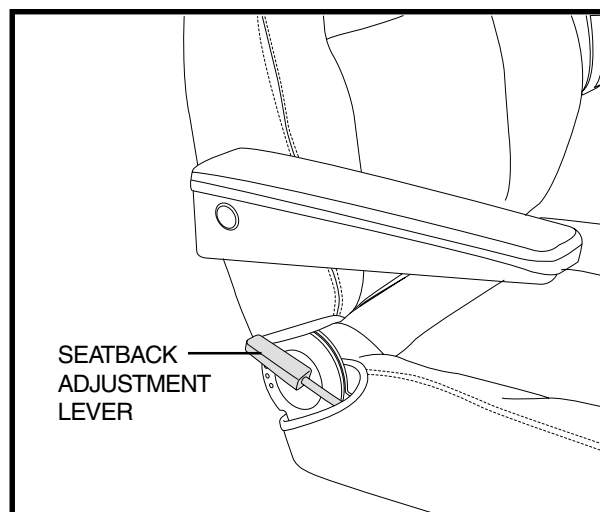

Figure 16. Seatback Adjustment
**To adjust your scooter's reclining seat (see figure 16):**